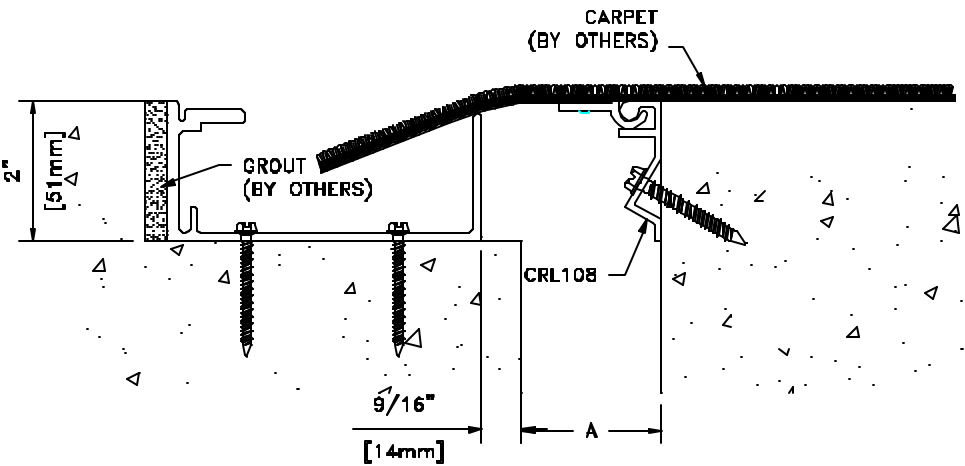

Figure 15
- STEP 24.** Install the carpet onto the Center Plate Assemblies (see Figure 15).